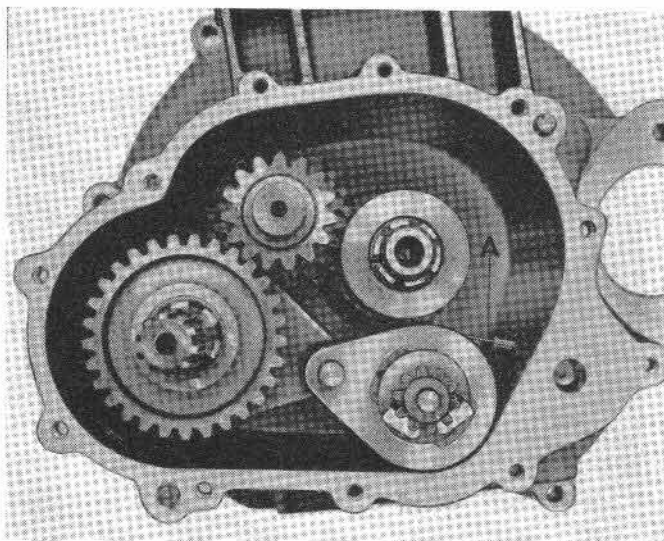

Fig. 77
- neutral indicator unit (see A on Fig. 77).